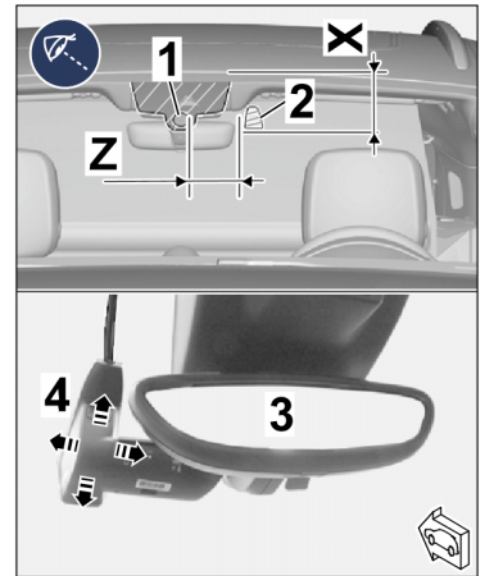

Figure 8
2.1.3 Copy dimensions X and Z on the windscreen (⇒*Figure 8-top-*).
- 2.1.4 Position front camera with retainer plate in the vehicle at the marking on the windscreen (⇒ *Figure 8-Arrows-*).